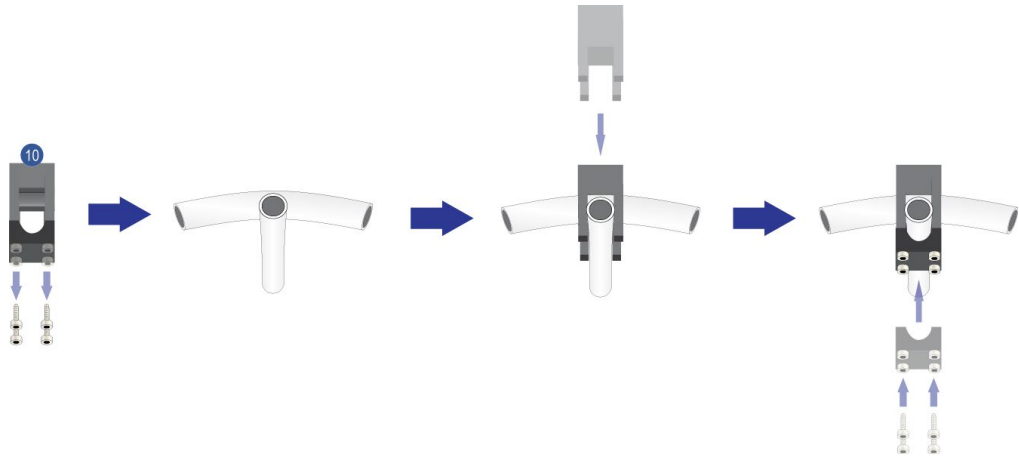

Figure 14 – ALT-930-2M Triple Loop Antenna Assembly – Step #10
**Step #10** Remove the four small bolts from the top dual loop clamp10 to separate the clamp into two pieces. Slide the larger piece down over the top of the Y-axis and Z-axis loops where they intersect at the center of the loop assembly as shown in Figure 14. Re-join the two clamp pieces by replacing and tightening the four small bolts.